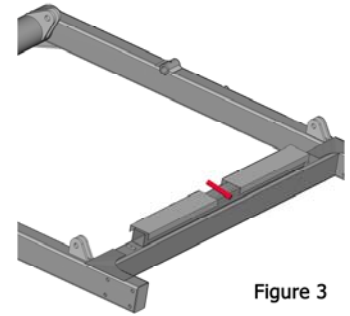

Figure 3
4. Cut the walk-way material with saw leaving the 3" x 3" x1/8" square tubing that protect the hydraulic lines. Figure 3